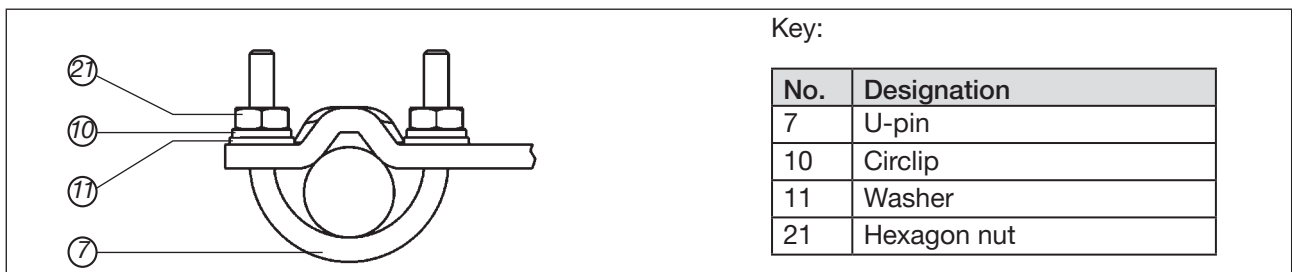

Figure 14: Attach positioner with mounting bracket; for actuators with columnar yoke
→ Attach mounting bracket to the columnar yoke (21) with the U-bolt (7), washers (11), circlips (10) and hexagon nuts (see “Figure 14”).